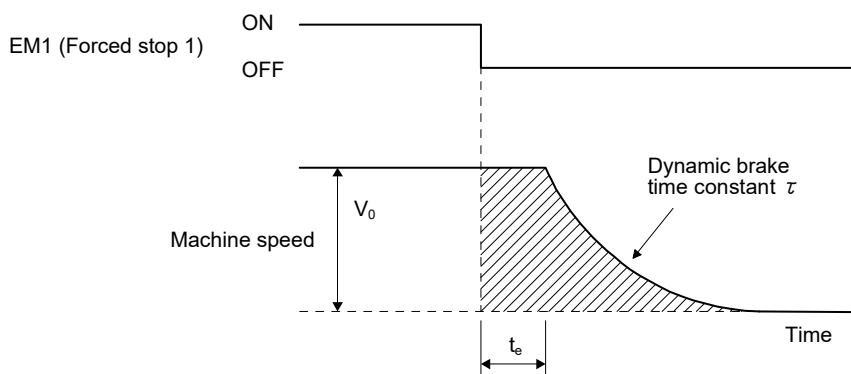

Fig. 18.2 Dynamic brake operation diagram
Fig. 18.2 shows the pattern in which the servo motor comes to a stop when the dynamic brake is operated. Use equation 18.1 to calculate an approximate coasting distance to a stop. The dynamic brake time constant  $\tau$  varies with the servo motor and machine operation speeds. (Refer to (1) (b) in this section.)